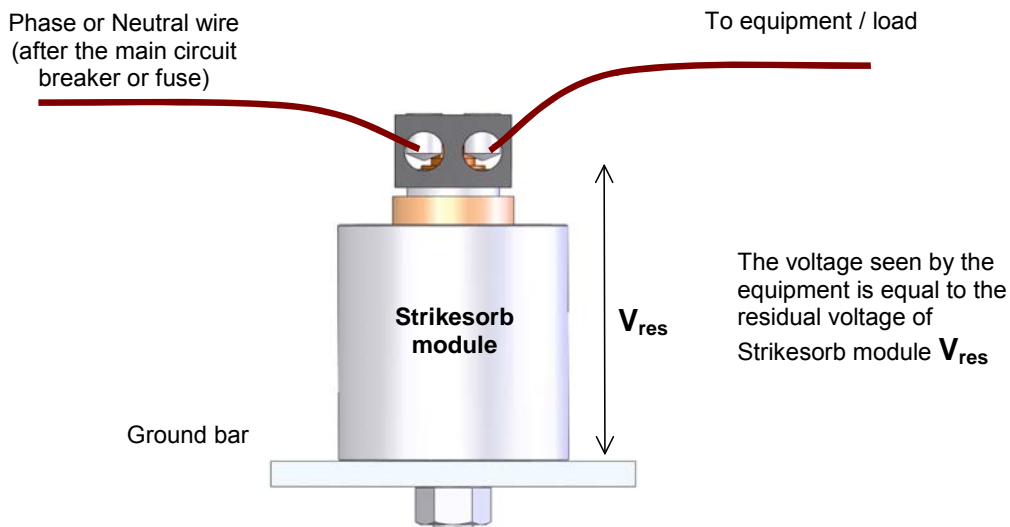

Figure 1: Direct (in-line) connection of Strikesorb module between a phase (or neutral) wire and the ground without additional lead wires.
The principle of direct connection is shown in fig. 1.
- **Zero lead length** – In the case of direct connection the SPD is directly connected to the power cables/conductors offering the lowest possible residual voltage to the load. The input wires (line and neutral wires) are directly connected to one of the two Strikesorb connector ports. The second port of each connector is used to connect the corresponding wires that feed the equipment, as shown in Figure 1. Therefore, no additional lead wires are used, thus providing the lowest possible residual voltage to the equipment. The majority of conventional TVSS devices can only be installed in T-connection. One major drawback of T-connection is the increased let-through voltage due to the self inductance of the lead wires, as explained in the next section.